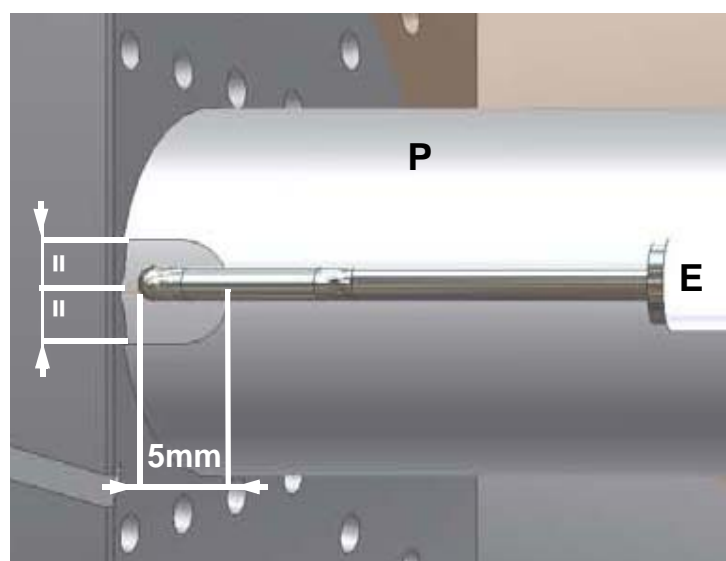

Fig. 27
- 2 disconnect the electrode (E) cable (CE);
- 4 loose screw (B) that fasten the ignition electrode (E) to the burner pilot (P);
- 5 remove the electrode and replace it, referring to the values quoted on Fig. 27;